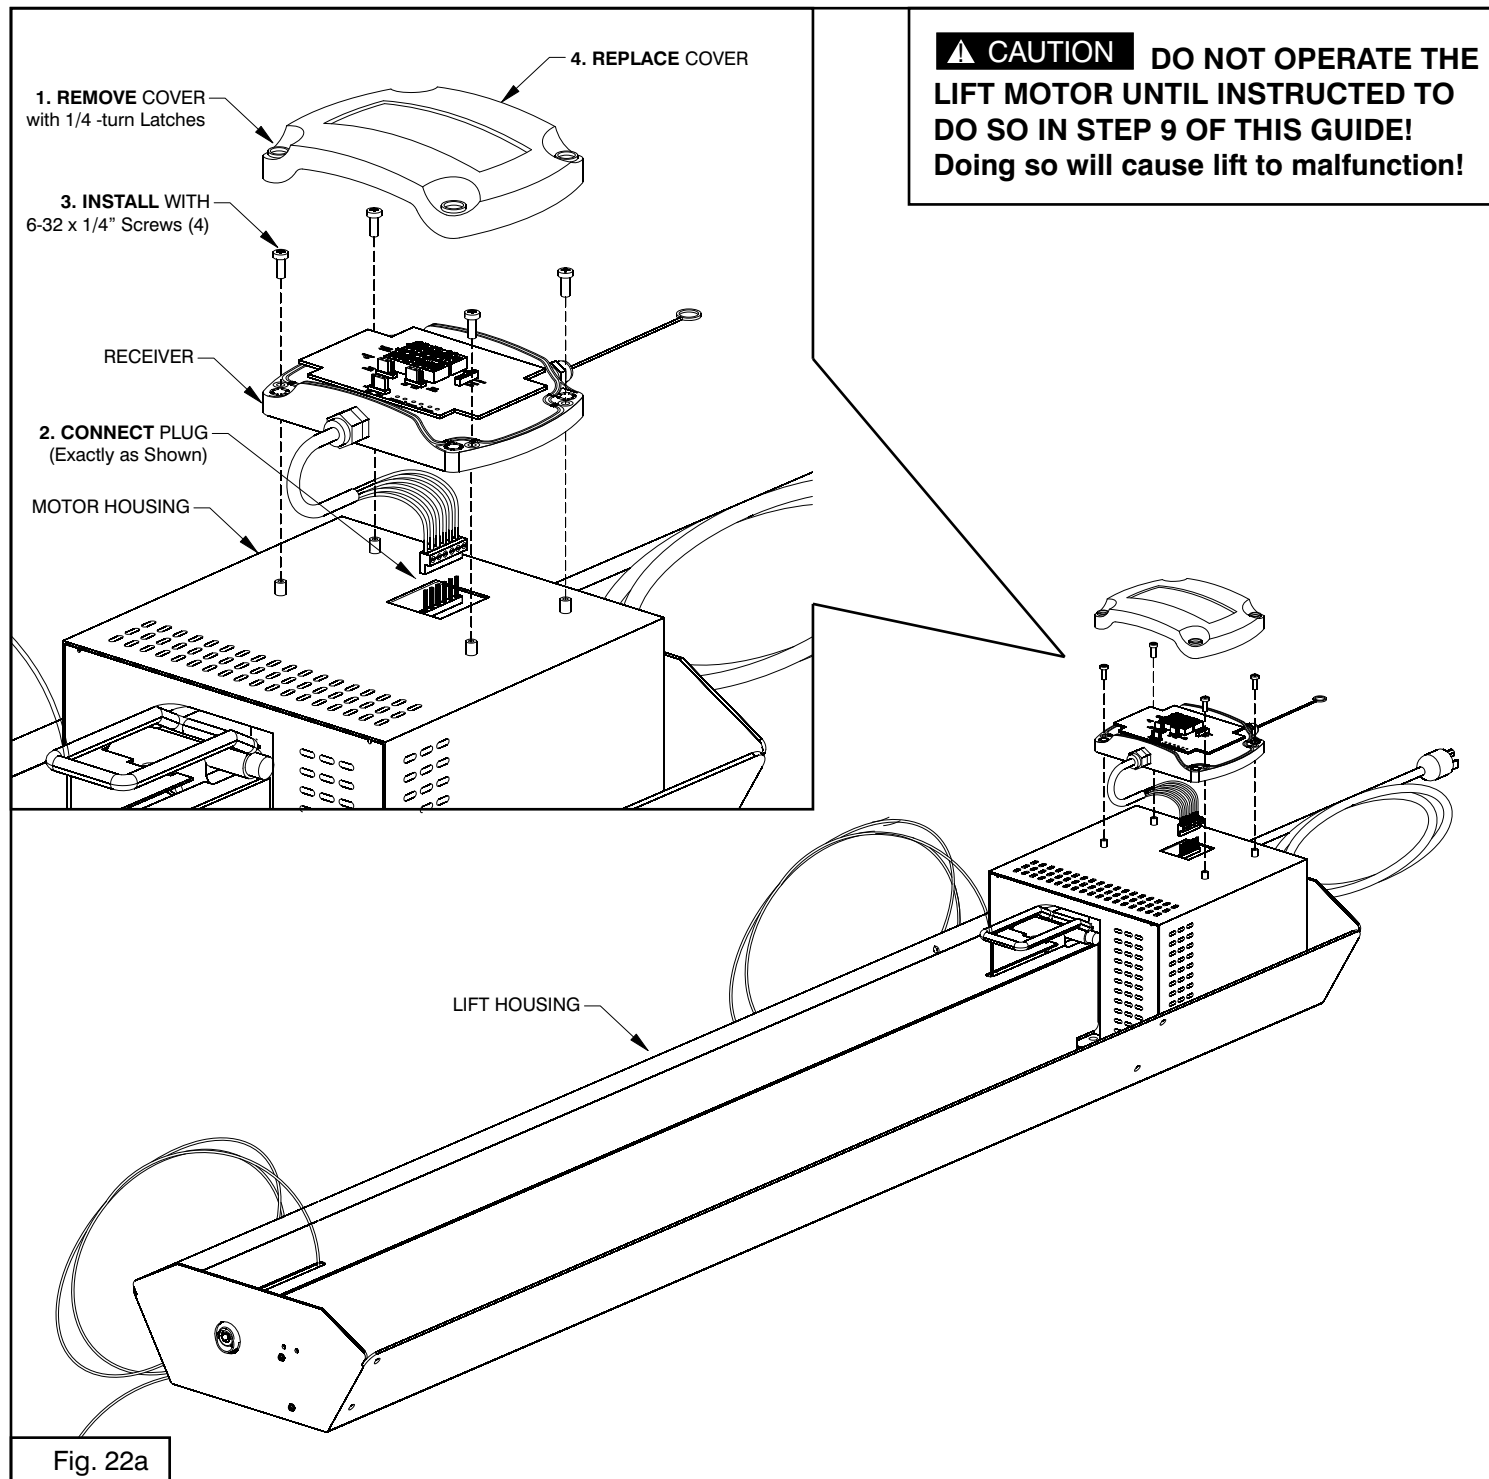

Fig. 22a
**This step requires two persons.** This assembly step should be done in the attic. Locate the parts shown below and move them up to the attic. The lift housing is heavy and requires 2 able persons to move it up to the attic. Place the lift housing on a rug or piece of cardboard open-side-up as show below in Fig. 22a.
flat-tip screwdriver (Fig. 22a inset).